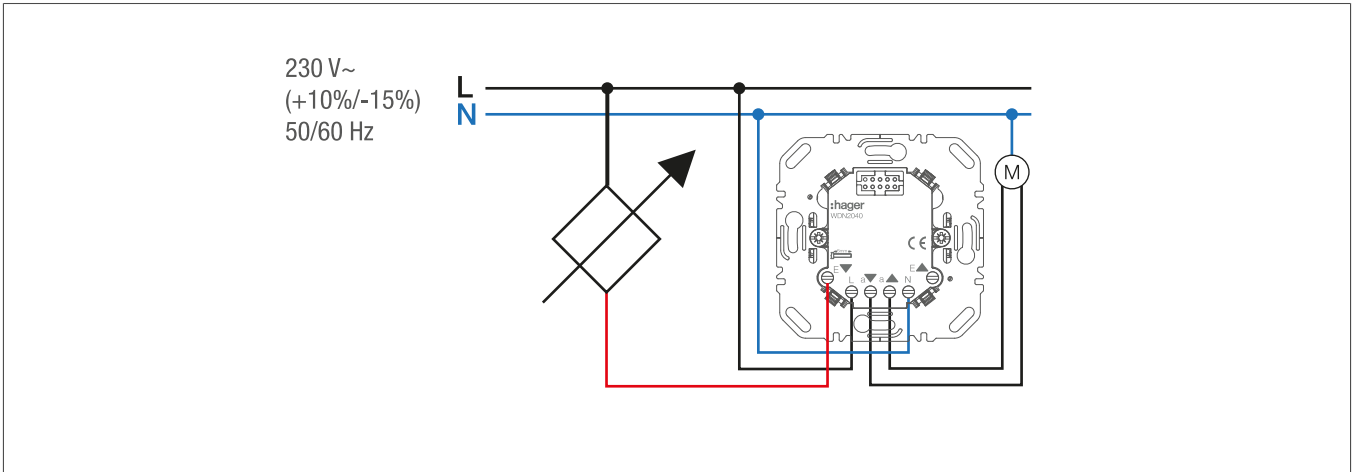

Fig. 5: Control by sensors
- Connect the sensor according to the connection diagram (Fig. 5).